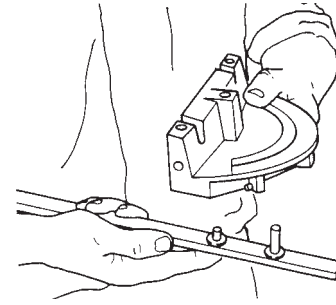

Figure 9
2. **Assemble the Miter Gauge.** Place one thin washer over the miter stud and one thin washer over the pivot screw hole. Place the protractor onto the miter gauge bar and secure it with the large flathead screw you removed. Tighten the screw then loosen it enough to allow movement. See Figure 9. Place two washers over the miter stud and screw the locking